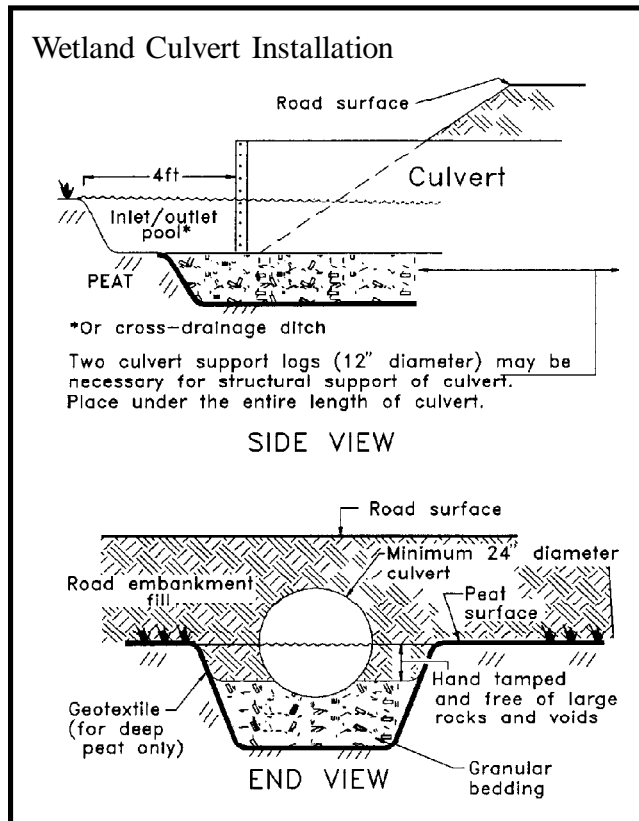

Figure ROAD-16
**U** Install culverts that are a minimum of 24 inches in diameter buried halfway below the soil surface. The upper half will handle surface storm flows and the lower half will handle normal subsurface flows. Failure to bury the lower half of the culvert will cause subsurface water to pond on the upstream side of the road and kill trees. See Figure ROAD-16.
**U** Install culverts that are a minimum of 24 inches in diameter buried halfway below the soil surface. The upper half will handle surface storm flows, and the lower half will handle everyday subsurface flows. Failure to bury the lower half of the culvert will cause subsurface water to pond on the upstream side of the road and kill trees. See Figure ROAD-16, page 38.